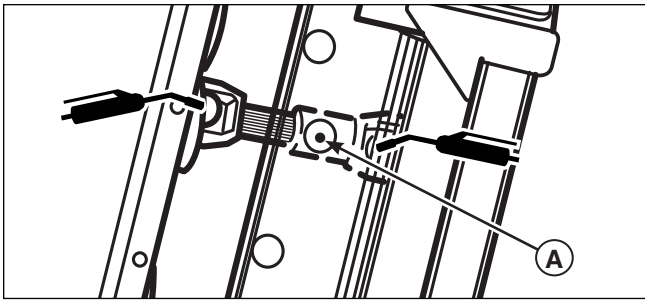

Figure 30. Drive Shaft (Bottom side of unit shown)
1. Position the drive shaft so that the plug (A, Figure 30) can be accessed from beneath the machine through the hole in the engine cradle.